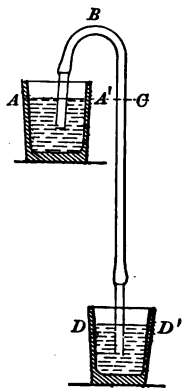

FIG. 104. — A siphon.
**101. Siphon.** The siphon is a bent tube with unequal arms. It is used to empty bottles and tanks which cannot be overturned, or to draw off the liquid from a vessel without disturbing the sediment at the bottom. If the tube is filled and placed in the position shown in figure 104, the liquid will flow out of the vessel *A* and be discharged at a lower level *D*. The force